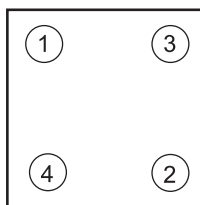

Figure 3.3 Sequence of Screw Tightening
- Screw the user system interface cable head to the socket with the screws provided together with the user system interface cable. Alternately tighten the screws little by little in the sequence shown in figure 3.3.